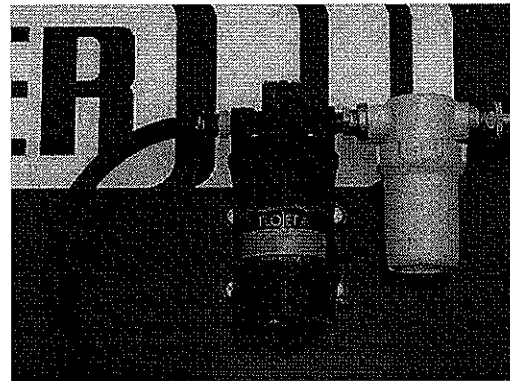

figure 28
3. Connect the filter to the pump. Place this assembly over the holes and secure it to the sweeper hood with 4 screws, nuts and washers (figure 28).